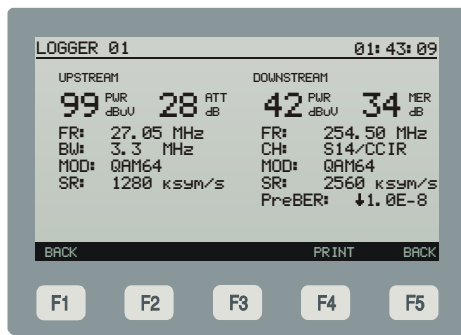

Figure 15.- Logger Viewing in **MODEM** mode.
- VIEW [F3]:** It allows you to access the data stored in the selected logger (Figure 15.-)